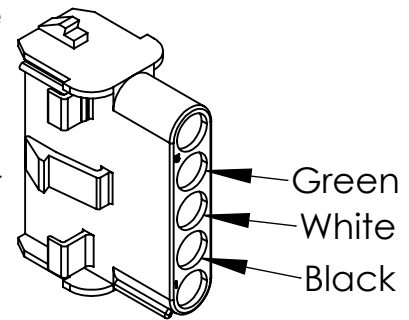

Fig 4.
11. Once you have successfully fed the cable through, attach the new connector housing (included in the kit) to the three wires by simply pushing each wire into the corresponding openings on the housing until you feel it click. Pull on each inserted wire to ensure that they are secure within the housing. **NOTE: MAKE SURE TO INSERT THE CORRECT WIRE INTO THE CORRECT PORT IN THE HOUSING. ONCE THE WIRES ARE INSERTED INTO THE HOUSING, THEY CANNOT BE REMOVED (Fig. 4).** When all three wires have been inserted into the cable housing, connect the male housing (connected to the motor) to the female housing (connected to the electrical system).